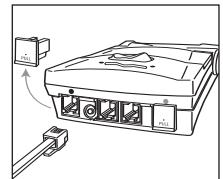

Figure 6
2. Connect the headset to the lower headset cord (it may already be attached to the amplifier) and plug it into the "GN" headset port marked with the black dot (Figure 6).